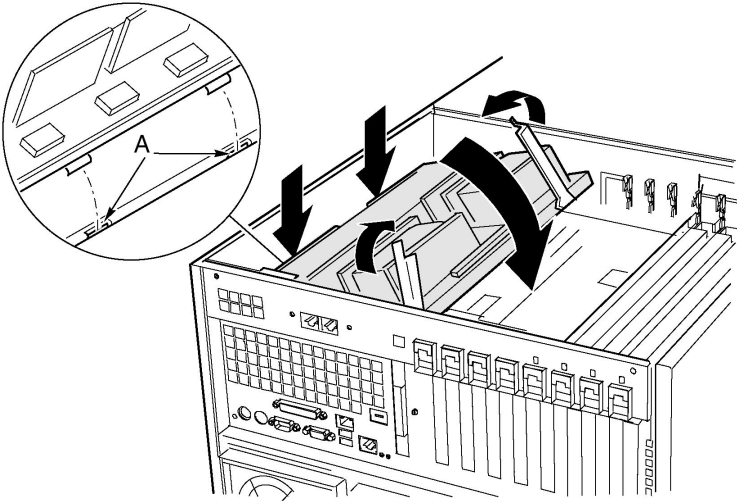

Figure 21 - Installing the processor board
- 1 Insert the tabs on the processor board into the slots on the mainboard bracket (Figure 21, A).